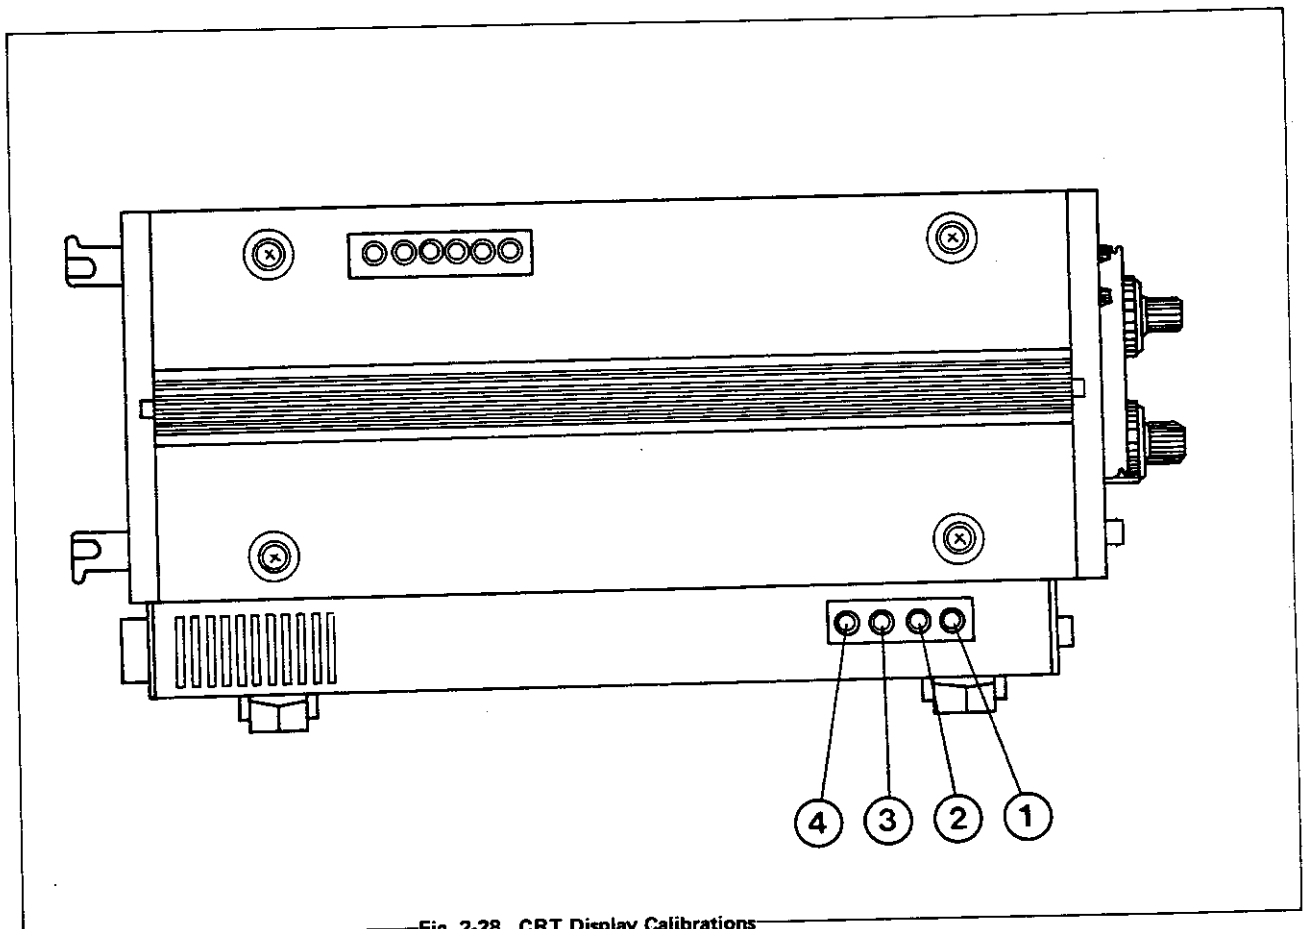

Fig. 2-28 CRT Display Calibrations
If the CRT display signal waveform fails to vary by the normal amount when the **TR4132/4132N RF ATT., IF GAIN** or input signal is changed by 10 dB, calibrate the scale by adjusting with control ② (**Y GAIN**) shown in Fig. 2-28.
If the base line is not on the horizontal graticule line, correct it by using the control ① (**Y POSI.**) also shown in Fig. 2-28.
**DIV.** control to 100 MHz/DIV., and position the signal waveform in the center of the CRT screen with **MEMORY OFF**. Next switch **MEMORY ON**, and check that the CRT display signal waveform does not move. If it does move, adjust control ③ (**X POSI.**) shown in Fig. 2-28 until no further movement is detected.
(4) Horizontal scale calibration
Calibrate the horizontal scale on the CRT screen to 100 MHz per scale division with the **DISPERSION/DIV.** control in the 100 MHz/DIV. position, using control (4) (**X GAIN**) shown in Fig. 2-28.